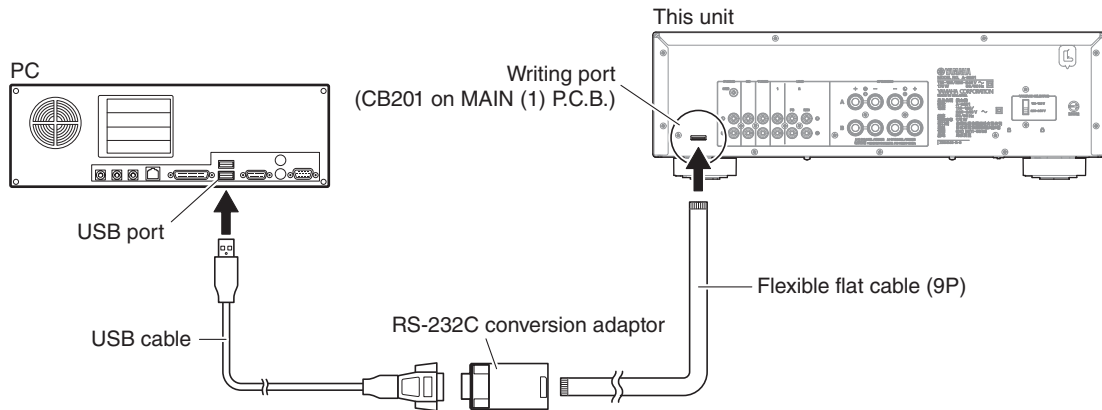

Fig. 1
- Connect the writing port (CB201 on MAIN (1) P.C.B.) located on the rear panel of this unit to the USB port of the PC with USB to serial converter, RS-232C conversion adaptor and flexible flat cable as shown below. (Fig. 1)